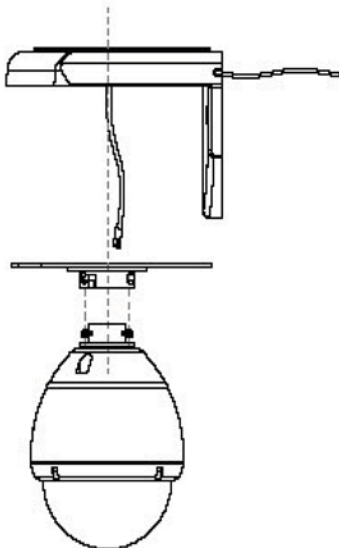

Fig.5
- (1) Cut Four holes on the Wall.
- (2) Put the cable through the hole of the panel of the wall bracket (Fig.5)